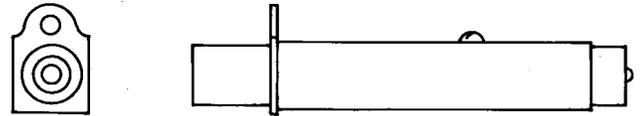

Fig. 17—486A Jack
2.12 486A: This single-mounted jack (Fig. 17) has coaxially arranged inner and outer contacts which are mounted in a tubular metal frame. This jack contains a 75 ohm deposited carbon rod resistor mounted coaxially with the outer housing and connected across the coaxial members. The 486A jack is